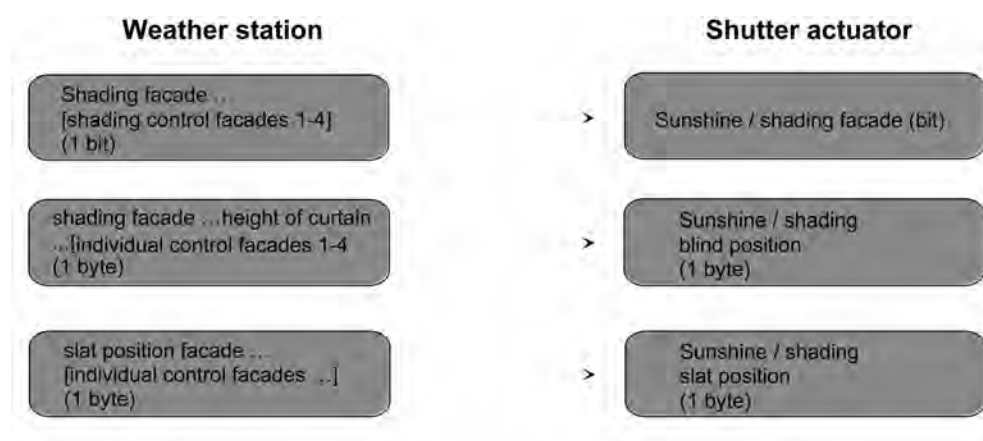

Figure 29: Programming of the communication objects for application example IV
- reaction at the beginning of sunshine / shading = variable blind position, variable slat position.(figure 29)